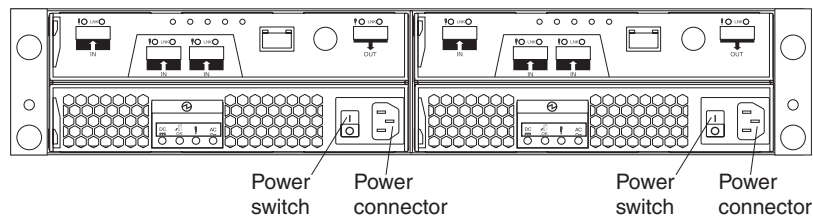

Figure 33. Power-supply switches and connectors for the DS3200
5. Turn on both ac power switches on the rear of the storage subsystem. Figure 33 shows the locations of the ac power switches on the DS3200.